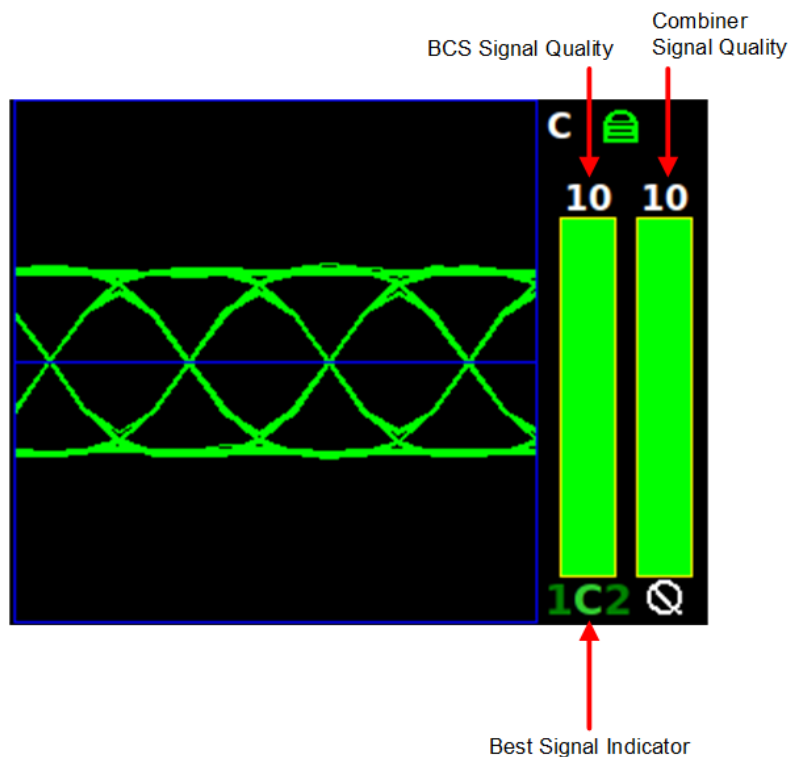

Figure 94: Best Channel Indicator Example
Best Channel Selector status is only displayed with the Combiner option enabled and set to On. This status displays in the right-hand side of the combiner signal indicator window, to the left of the combiner Signal Quality (Q) status, as shown in Figure 94.